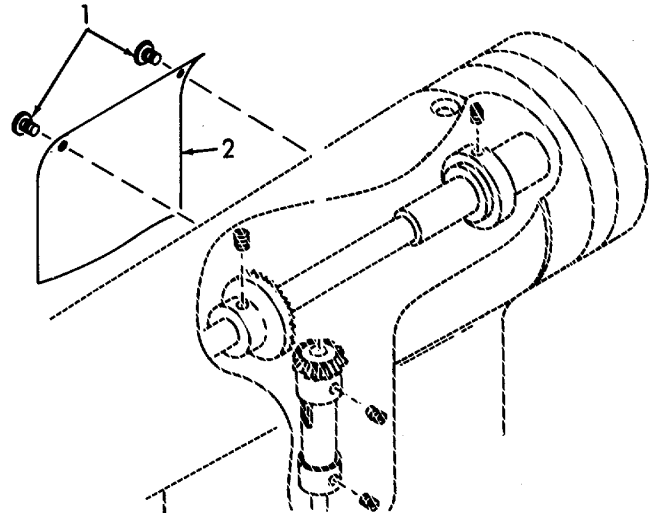

Figure 6-103. Side Cover, Removal.
a. Removal (Refer to Figures 6-103 and 6-104).
- (1) Refer to Figure 6-103. Remove two screws (1).
- (2) Remove cover (2).